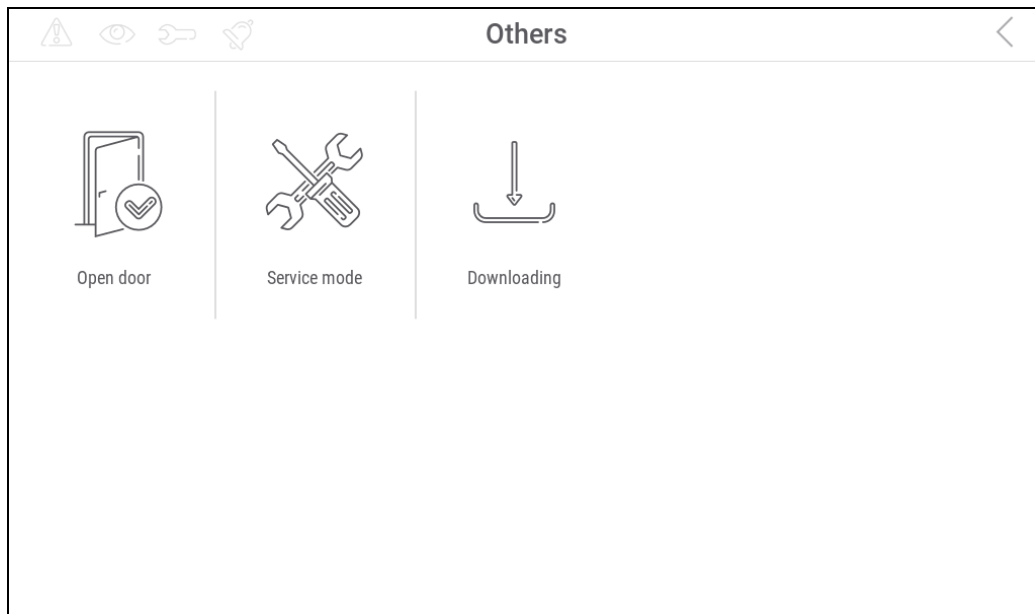

Fig. 5. Functions available on the “Others” screen (example).
- 4. Tap the "Others" function. A list of functions will be displayed (Fig. 5).